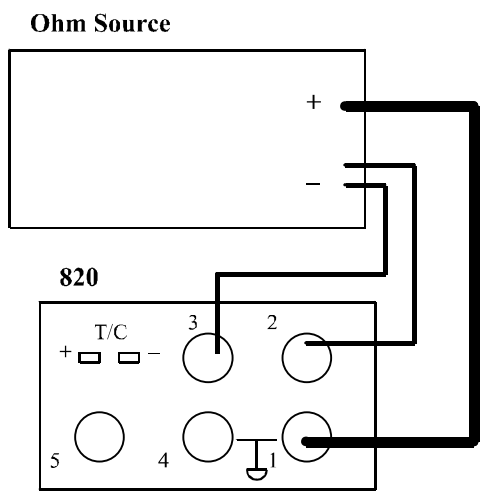

FIGURE 13
3. Hi Calibration: Connect an Ohms Source (Set to 400Ω) to terminals 1, 2 and 3 of the 820 (See figure 13). For maximum accuracy, the three leads should be of equal length. Press *STORE*; make sure you hear the beep, then press *SOURCE/READ*.